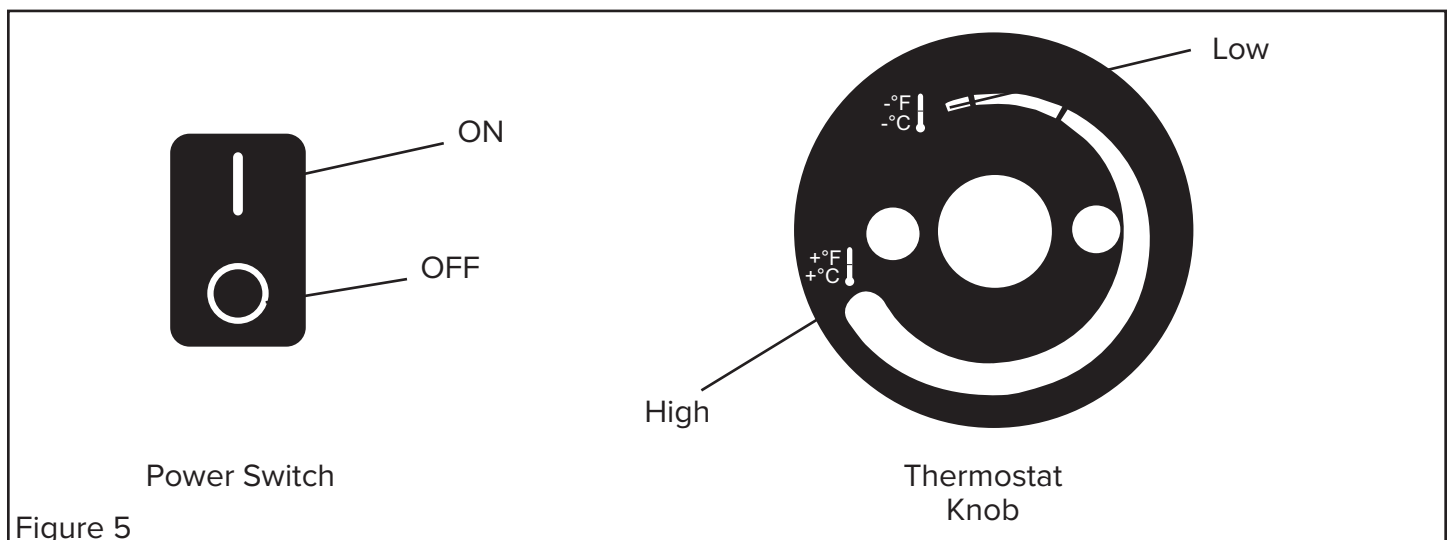

Figure 5
6. Turn power switch to the ON position. Heater will start within 20 seconds. (Figure 5)